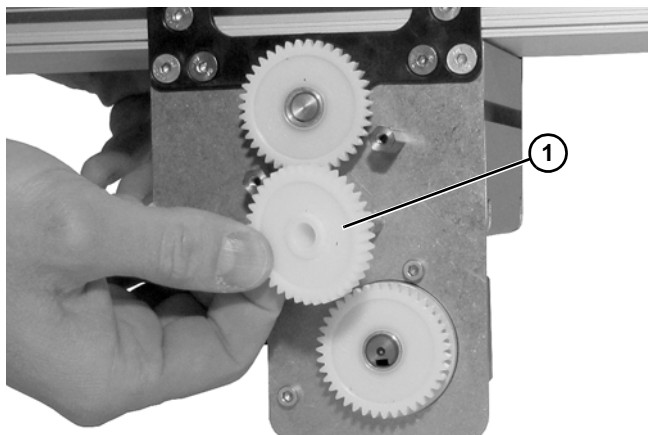

Figure 15
9. Remove center gear (Figure 15, item 1).